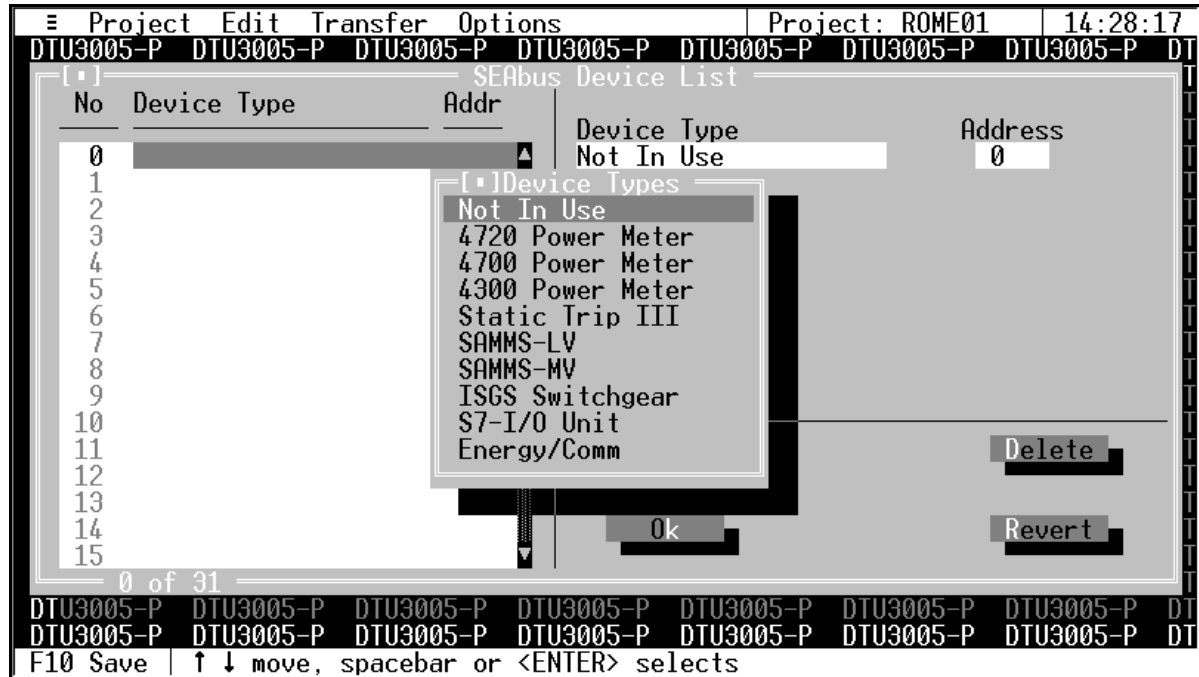

Figure 4.13 SEABus Device Types List
2. Select the **Device Type** field on the right side and press **Enter**. The **Device Types** list is displayed (see **Figure 4.13**).